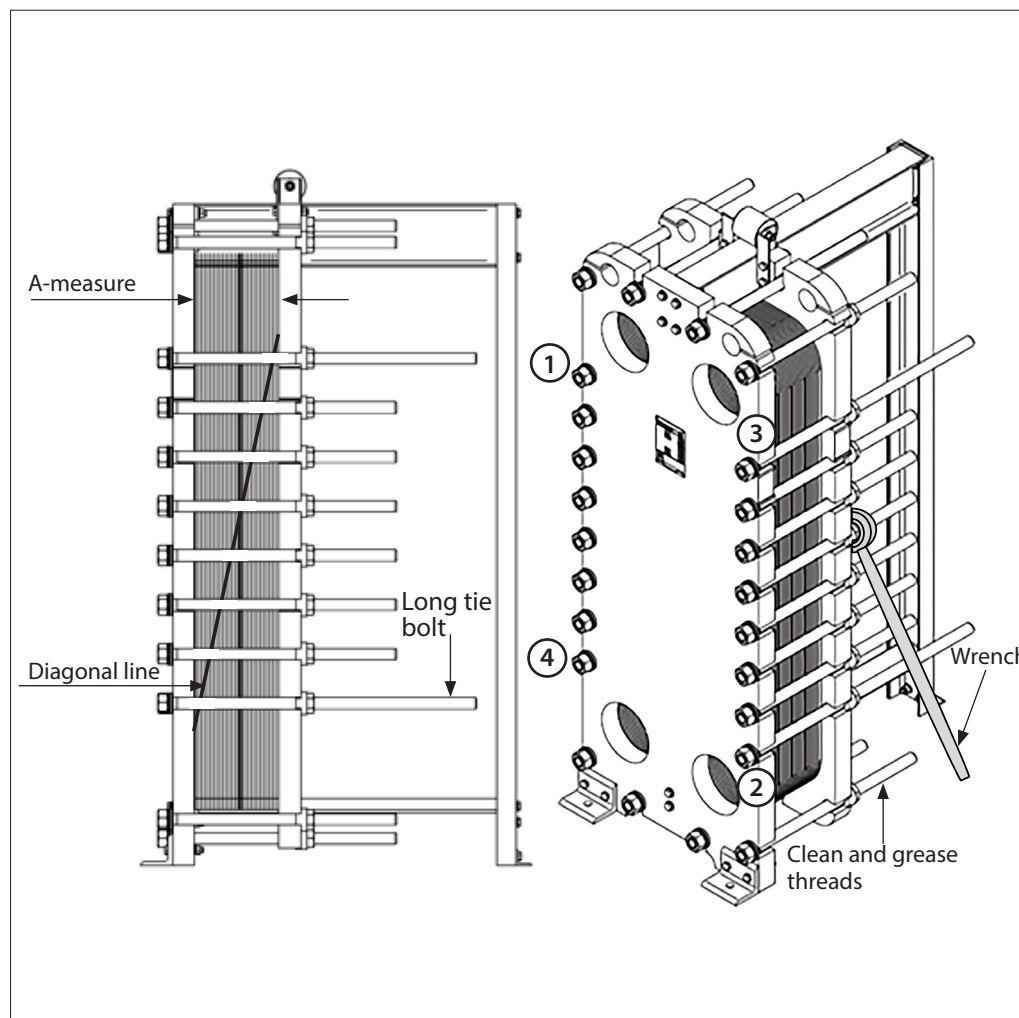

Fig. 14. Closing the plate heat exchanger. Note: The A-measure shall never be less than A-measure minimum (see name plate)
- Install the long tie bolts and tighten evenly in the numbered order 1, 2, 3, 4 (fig. 14) until a resistance can be noticed. i.e. the follower shall have a parallel closing motion